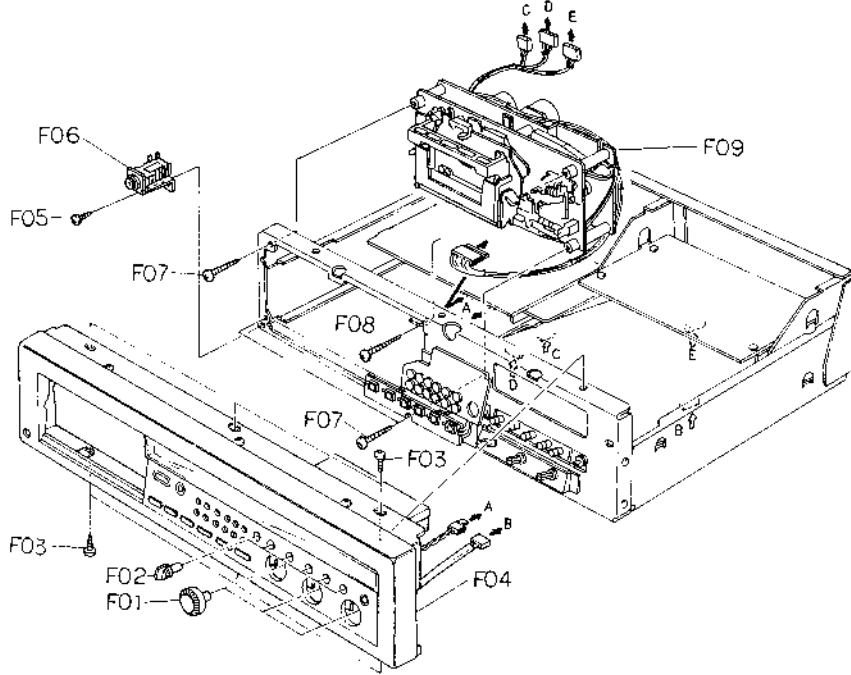

Fig. 2.2.1 Serial No.: A12102102 -
Refer to Figs. 2.2.1 and 2.2.2.
- (1) Refer to Fig. 2.2.1. Remove Front Panel Ass'y referring to item 2.4.
- (2) Remove the connectors and wires connected by wrapping from F02 (Logic P.C.B. Ass'y).
- (3) Remove F01, then disassemble F02 (Logic P.C.B. Ass'y).
- (2) Remove the flat cable, connectors and wires connected by wrapping from F11 (Main P.C.B. Ass'y).
- (3) Remove F05, F06 (Dolby NR P.C.B. Holder D), F07 (Dolby NR P.C.B. Holder E), F08, F09 and F10, then disassemble F11 (Main P.C.B. Ass'y).
- (2) Remove F15, then disassemble F16 (Volume P.C.B. Ass'y).
- (2) Remove F17, then disassemble F18 (Control Button Ass'y).
- (2) Remove F19, then disassemble F20 (Record Cal. P.C.B. Ass'y).
- (1) Refer to Figs. 2.2.1 and 2.2.2. Remove Front Panel Ass'y referring to item 2.4.
- (2) Remove F01, F02 and F03, then disassemble F04 (LED Level Indicator Ass'y).
- (3) Remove F05, then disassemble F06 (Shield Cover).
- (4) Remove F07, then disassemble F08 (Shield Case).
- (5) Remove F09 and F10, then disassemble F11 (Indicator P.C.B. Ass'y).
- (6) Remove F12, then disassemble F13 (Indicator P.C.B. Holder).